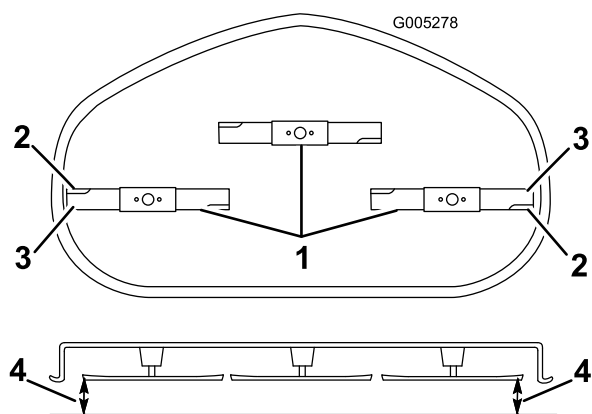

Figure 56
4. Carefully rotate the blade(s) so that they are all side to side (Figure 56).
5. Measure between the outside cutting edges and the flat surface (Figure 56). If both